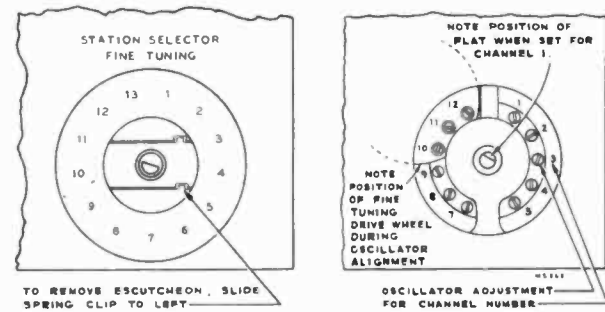

Figure 9—R-F Oscillator Adjustments
**CHECK OF R-F OSCILLATOR ADJUSTMENTS**—With a crystal calibrated test oscillator or heterodyne frequency meter, check to see if the receiver r-f oscillator is adjusted to the proper frequency on all channels. If adjustments are required, these should be made by the method outlined in the alignment procedure on page 22. The adjustments for channels 1 through 5 and 7 through 12 are available from the front of the cabinet by removing the station selector escutcheon as shown in Figure 9. Adjustments for channels 6 and 13 are under the chassis. See Figure 27 for their location.